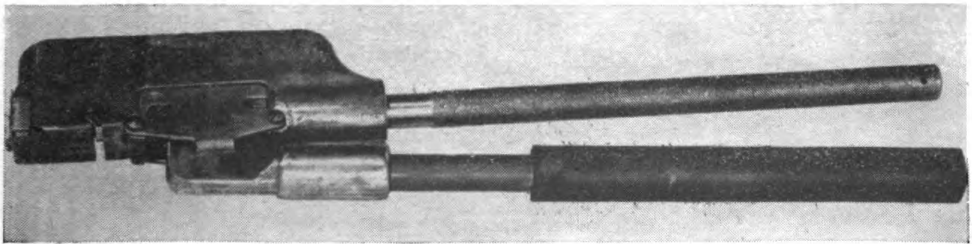

*Figure 176. Set of figures.*
*d. FIGURE AND LETTER STAMPS.* (1) A set of figure and letter stamps includes one each of all the letters in the alphabet, one each of the numbers 0 through 9, and the figure &. Each stamp is a steel die about 3 inches long with a character shaped on its face. (See fig. 176.) The face is hard steel. The stamps are used to cut identification marks into materials and tools.